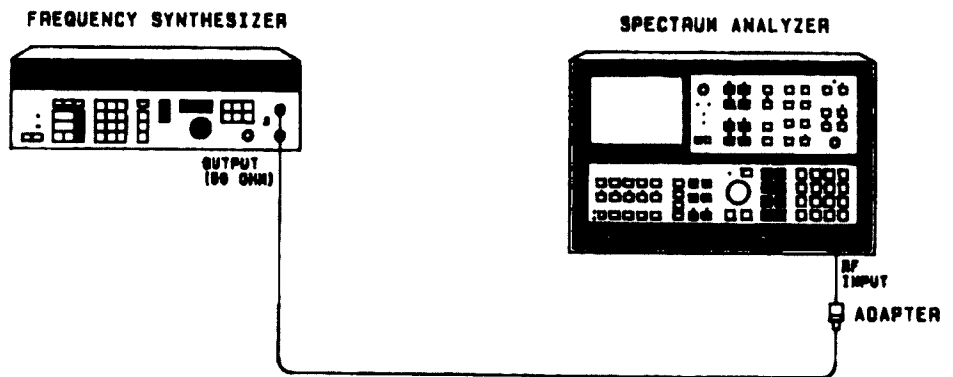
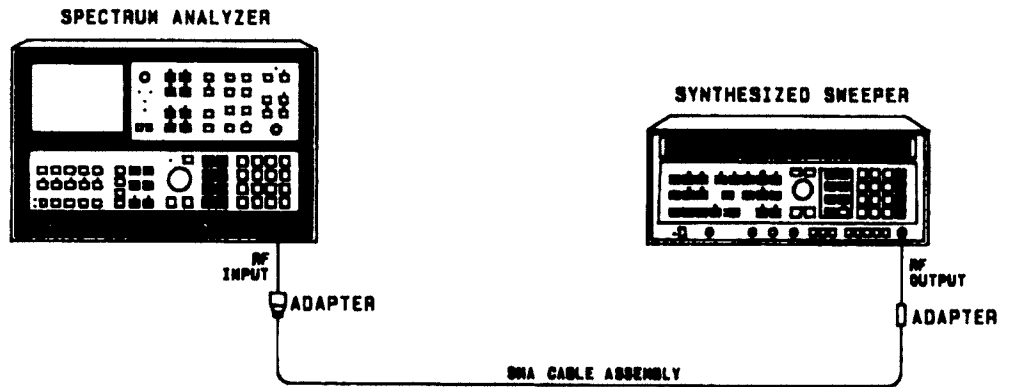

Figure 2-3. Narrow Span Test Setup
Figure 2-4. Wide Span Test Setup
Equipment listed is for two test setups, Figure 2-3 and Figure 2-4.
2. Connect equipment as shown in Figure 2-3.
9. Disconnect the frequency synthesizer from the analyzer input. Connect equipment as shown in Figure 2-4.